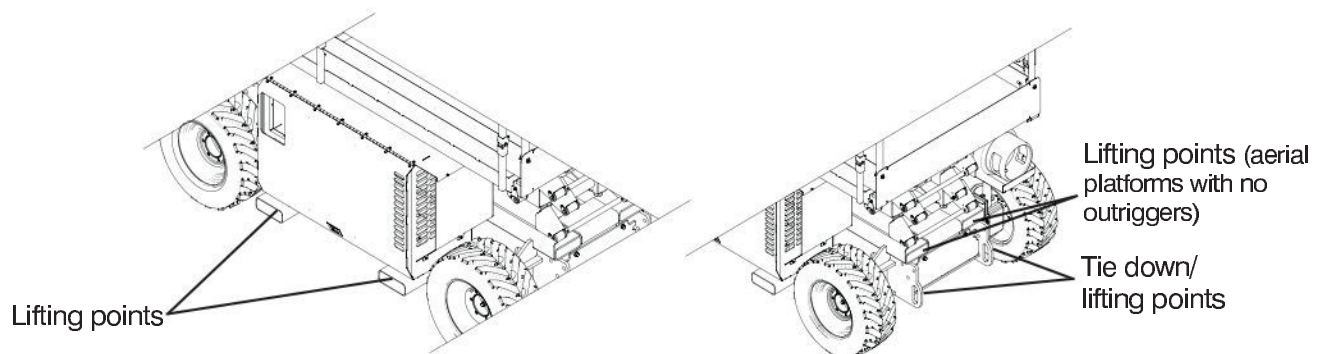

Figure 3-17. Tie Downs/Lifting Points
- The lifting/rigging must be attached to all twelve lifting points as illustrated in Figure 3-17.
When transporting, the aerial platform must be secured to the truck or trailer deck. Tie downs are available as illustrated in Figure 3-17.